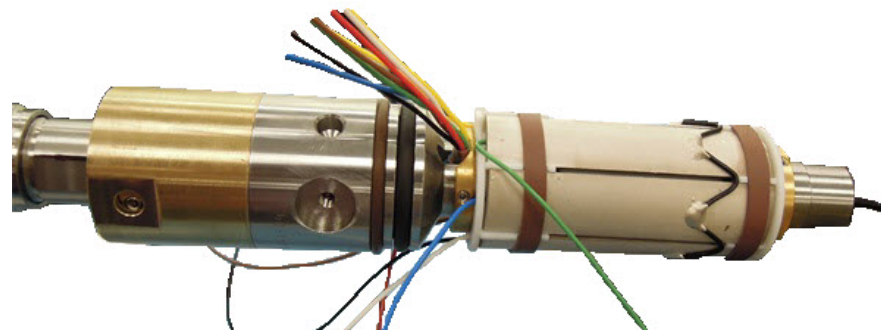

Figure 5-14 Rx Wiring Through Receiver Top
- 1 Install and grease (P/N: LOR101) the O-Rings (items 46 & 50) on the Receiver Top (item 11).
- 2 Feed the harness wiring through the Receiver Top (item 11). Thread the Rx1 wires coming from the Sonde Main Harness (item 52), up and out through the wiring borehole, see Figure 5-14.